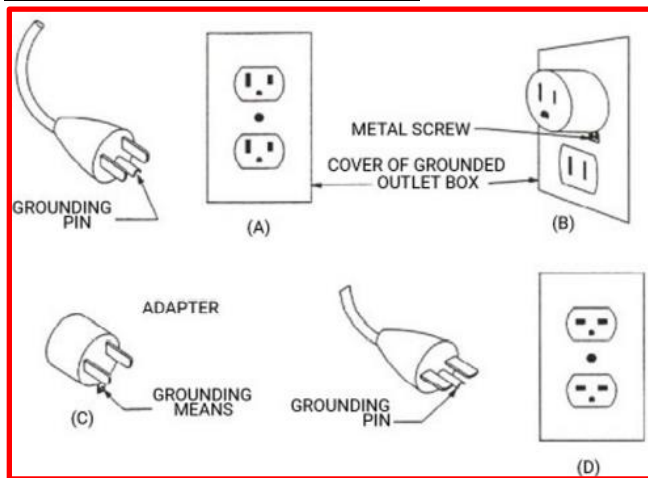

Figure 1.) Grounding Methods Provided by CSA (Canadian Standards Association) Group. Sketches A.), B.) C.) & D.)-
g.) This tool is intended for use on a circuit that has an outlet that looks like the one illustrated in Sketch A in Fig. 1. The tool has a grounding plug that looks like the plug illustrated in Sketch A in Fig. 1. A temporary adapter, which looks like the adapter illustrated in Sketch B and C, may be used to connect this plug to a 2-pole receptacle as shown in Sketch B if a properly grounded outlet is not available. The temporary adapter should be used only until a properly grounded outlet can be installed by a qualified electrician. This adapter is not permitted in Canada. The green-colored rigid ear, lug, and the like, extending from the adapter must be connected to a permanent ground such as a properly grounded outlet box.